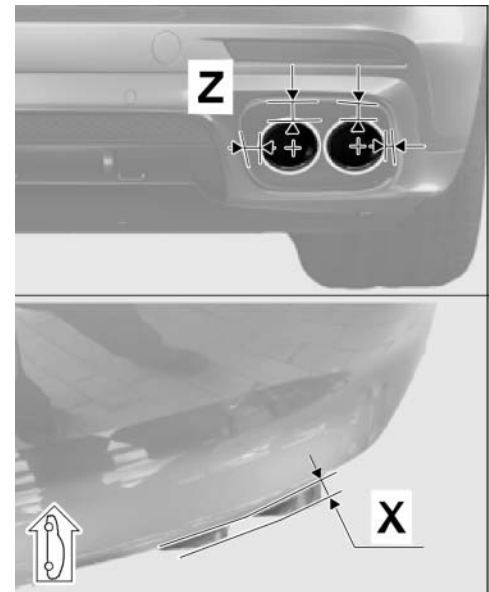

Figure 10
- 3.2 Check that the gap = "dimension Z" between the new sports tailpipes and exhaust system cover (rear apron – left and right side of vehicle ⇒ *Figure 10-Z-*) is symmetrically constant.
- 3.3 Check that the sports tailpipes project equally = "dimension X" with respect to the rear apron (left and right side of vehicle ⇒ *Figure 10-X-*). Re-align sports tailpipes if necessary.